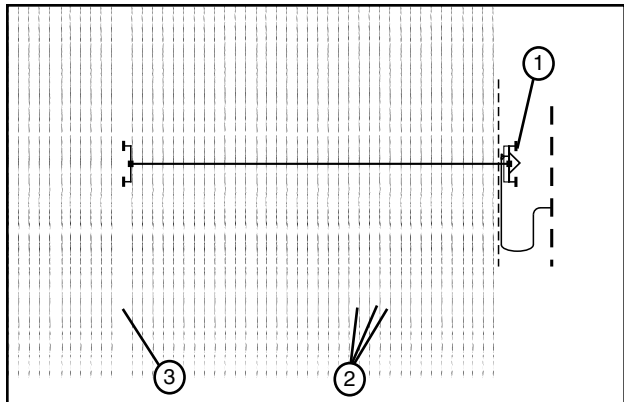

Figure 32-1 Parallel Travel
2. Plant the crop parallel to the wheel tracks allowing a minimum of 10 in (254 mm) of clearance space between each wheel track and the first crop row on either side of the wheel track. See figures 32-1 and 32-2.
1. Plant the crop parallel to where the irrigation machine will run. See figure 32-1.